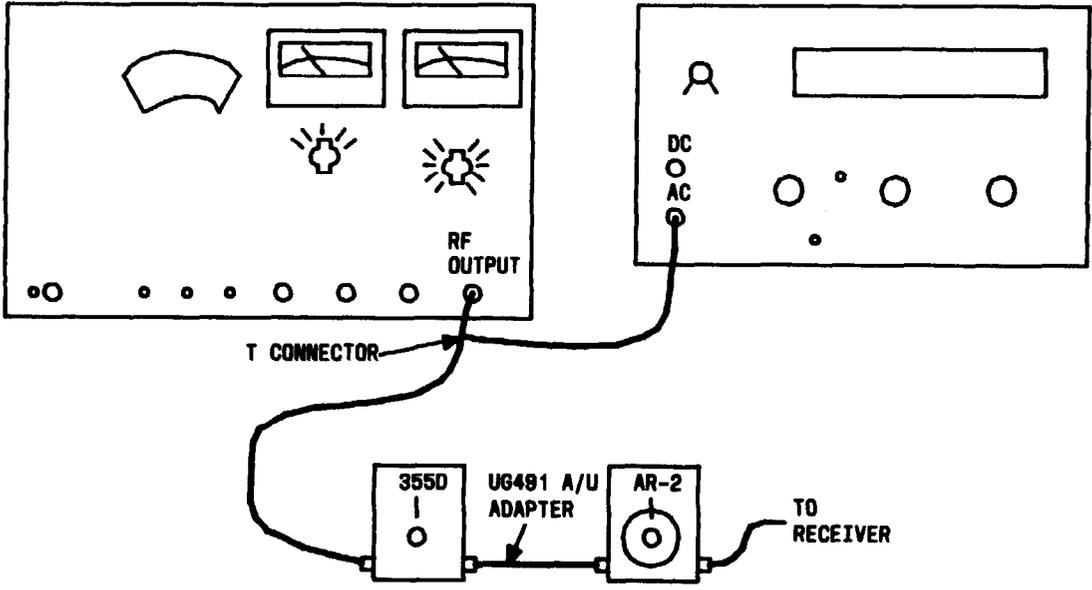

FIG. 1
- [4] CONNECT T CONNECTOR BNC UG274 B/U TO SIGNAL GENERATOR RF OUTPUT 50Ω JACK. SEE FIG. 1